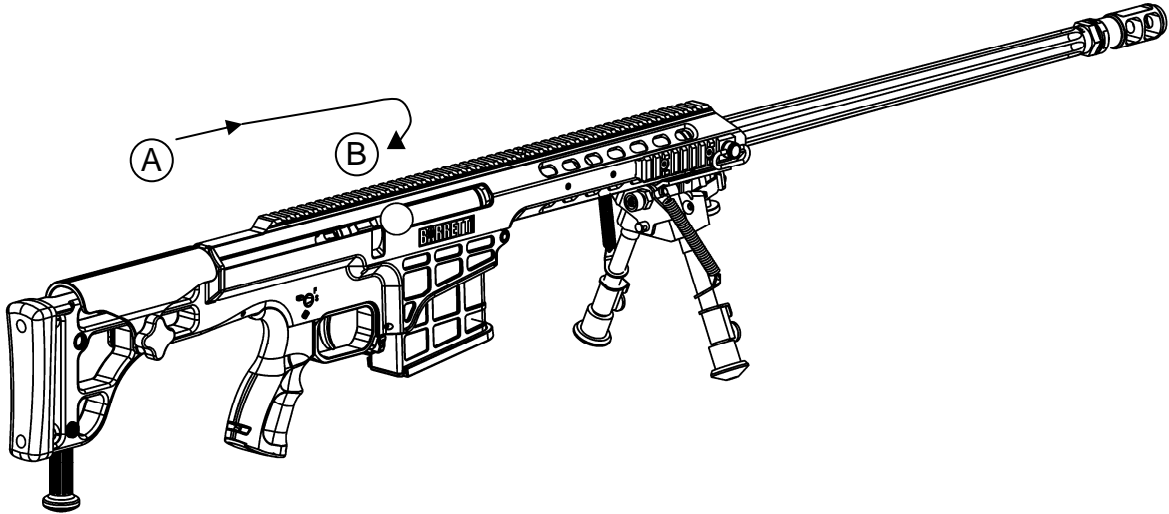

Figure 6. Step A and B. Closing the Bolt
4. Push the bolt handle forward (Figure 6, Step A.) which will load a cartridge into chamber, and rotate the bolt handle down (Figure 6, Step B), closing the firing chamber.